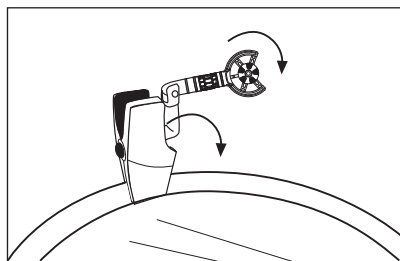

Figure 1
1. Clamp the microphone to the ring of the drum. (Figure 1)